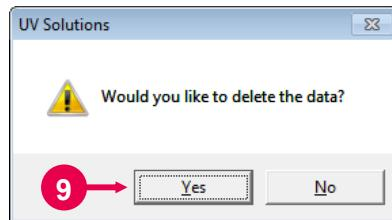

Fig. 5-61
- (9) The read data can be deleted. To delete a data value from the table, click the relevant No. (refer to (7) in Fig. 5-60). Then click the **Delete** button (refer to (8) in Fig. 5-60). A dialog box as shown in Fig. 5-61 will appear. Click the **Yes** button (refer to (9) in Fig. 5-61), and the data value will be deleted.